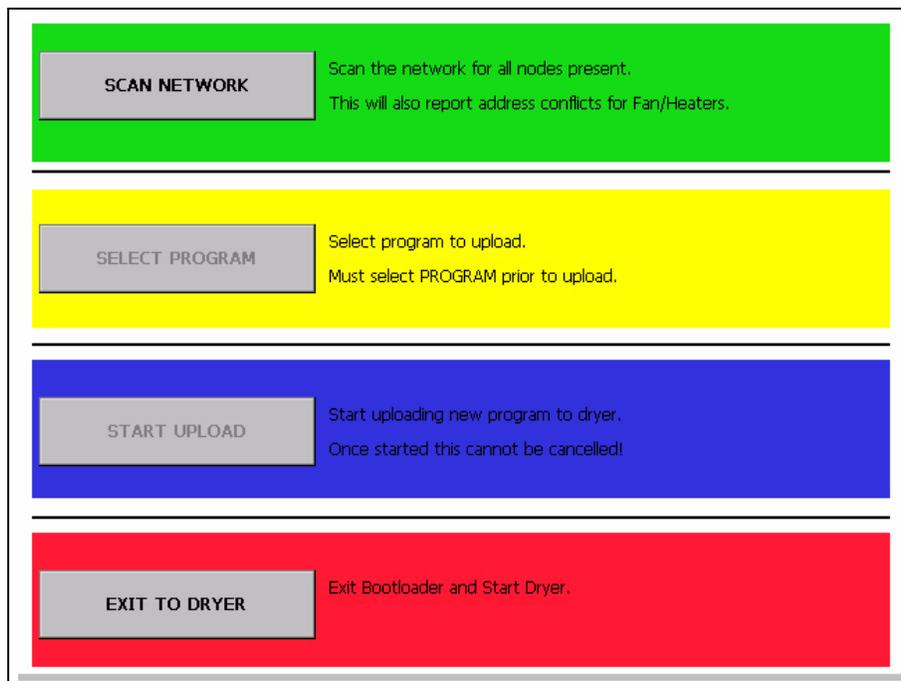

Figure 4E
5. After the program files are transferred, the “Boot Loader” screen will appear. (See Figure 4E.)